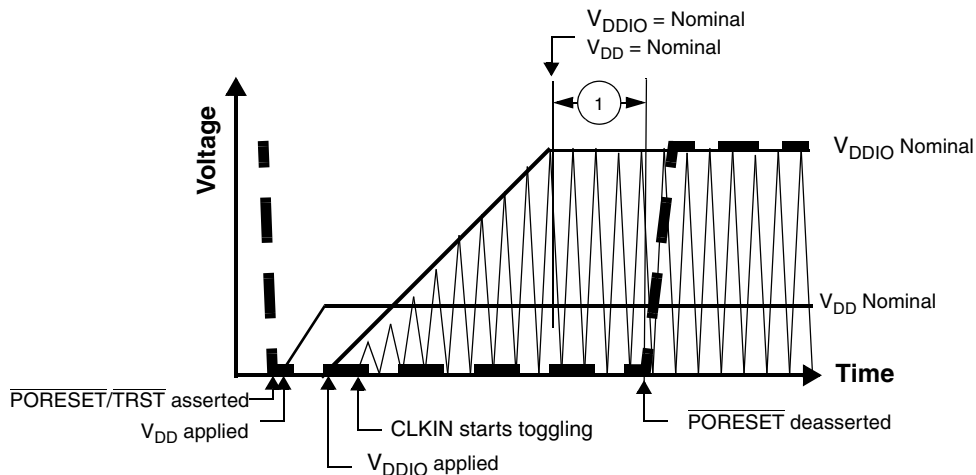

Figure 33. Supply Ramp-Up Sequence with  $V_{\text{DD}}$  Ramping Before  $V_{\text{DDIO}}$  and  $\text{CLKIN}$  Starting With  $V_{\text{DDIO}}$
- $\text{CLKIN}$  should toggle at least 32 cycles before  $\overline{\text{PORESET}}$  deassertion to guarantee correct device operation. The 32 cycles should only be counted from the time after  $V_{\text{DDIO}}$  reaches its nominal value (see timing 1 in Figure 33).
Figure 33 shows a sequence in which  $V_{\text{DDIO}}$  ramps-up after  $V_{\text{DD}}$  and  $\text{CLKIN}$  begins to toggle with the raise of  $V_{\text{DDIO}}$  supply.